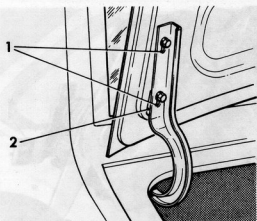

Fig. 12.24. Luggage compartment lid hinge (Sec. 18)
- 5 If the position of the lid requires adjustment, the lid should be refitted and repositioned using the movement available through the slotted holes in the hinges (Fig. 12.24).